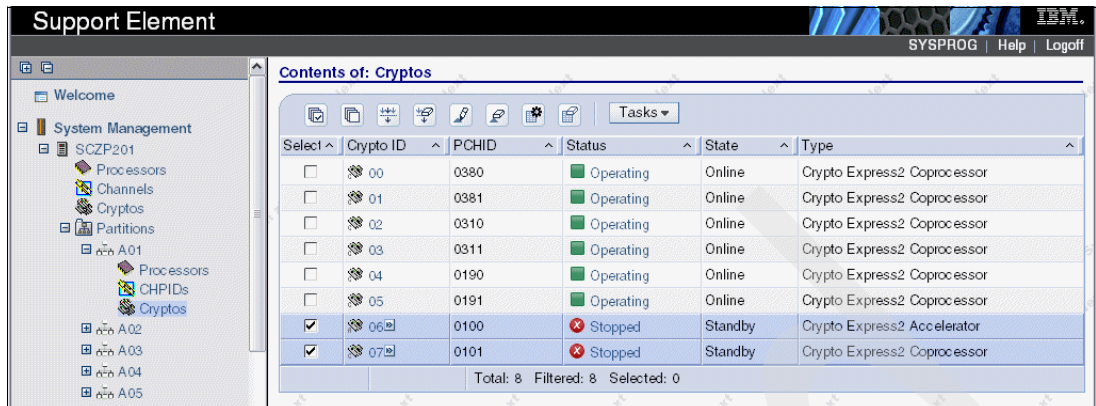

Figure 8-33 SE Crypto Service Operations - Standby
1. From the SE, select the **Systems Management** function. Select the target server, click **Partitions**, and then select the target logical partition. Click the **Cryptos** selection for the target logical partition. In the Contents of Cryptos panel, select the Crypto IDs that are to be changed. In Figure 8-33 on page 360, one Cryptographic accelerator (06) and one coprocessor (07) to LOGICAL PARTITION (A01) are selected.